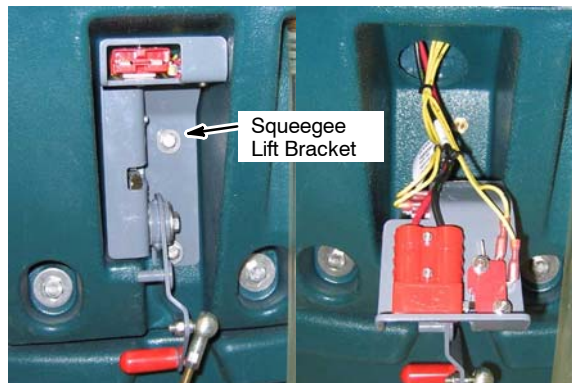

Fig. 3
3. Remove the squeegee lift bracket to access the existing charger plug as shown (Fig. 3).
6. Reinstall the squeegee lift bracket (Fig. 3).